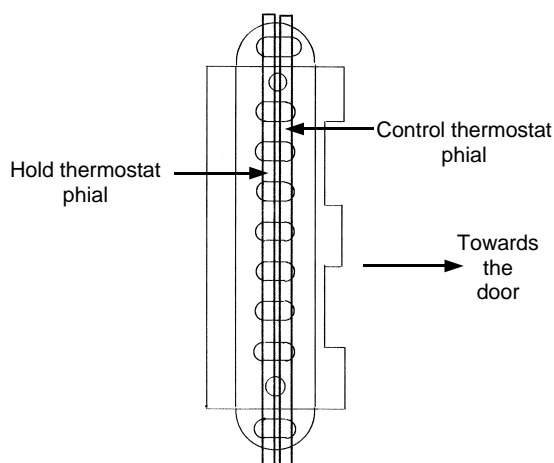

Figure 6.3.13
**NOTE:** Ensure that the thermostat phials are located in their correct positions. The main thermostat probe must be on the side closest to the door. The hold thermostat must be on the side closest to the fan and elements (refer figure 6.3.13).